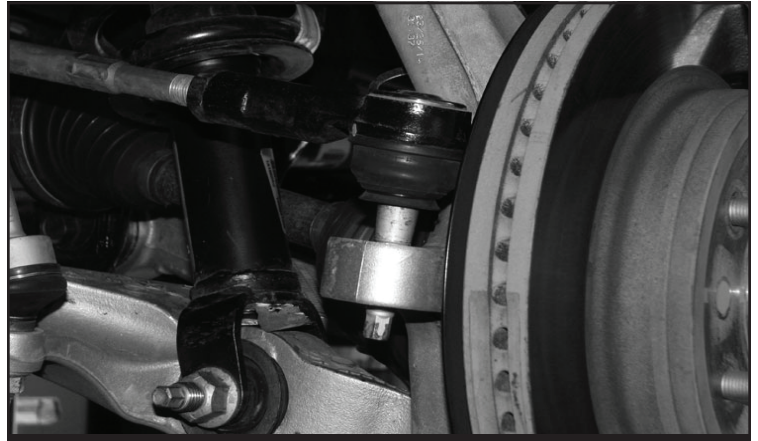

FIGURE 3 - STEP 4
4. Remove tie rod end from the spindle. **SEE FIGURE 3**